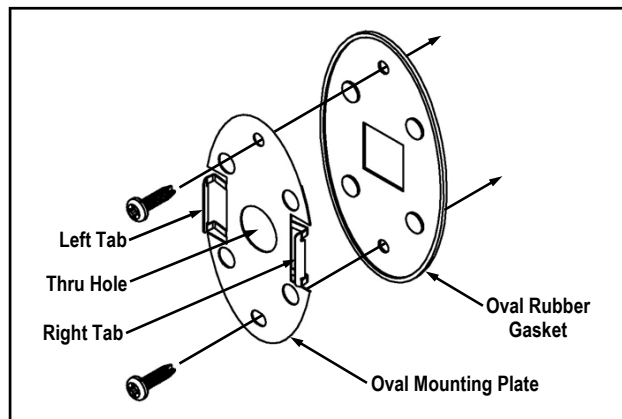

FIG. 13: "OVAL MOUNTING PLATE" (WITH LEFT AND RIGHT "TABS") AND THE "OVAL RUBBER GASKET"
- O1. See Fig. 13. Place the **Oval Rubber Gasket** against the door surface, over the 5/8" diameter thru hole that was drilled into the door in step 4, then place the **Oval Mounting Plate** on top of the **Oval Rubber Gasket**, and secure (*snug-tight only, do not over-tighten*) using the two Phillips Pan Head screws appropriate for the door type as follows:
- O2. Starting from the outside ("unprotected" side) of the door, insert the **Oval Proximity Reader** wires into the 5/8" diameter thru hole (drilled into the door in step 4), and push the wires through the hole, from the outside, to the inside ("protected" side) of the door. This thru hole in the door is in the middle of the **Oval Mounting Plate**, as shown in Fig. 13.
- a. Hook the **Oval Proximity Reader** on the **Right Tab** of the **Oval Mounting Plate** (see Fig 13).